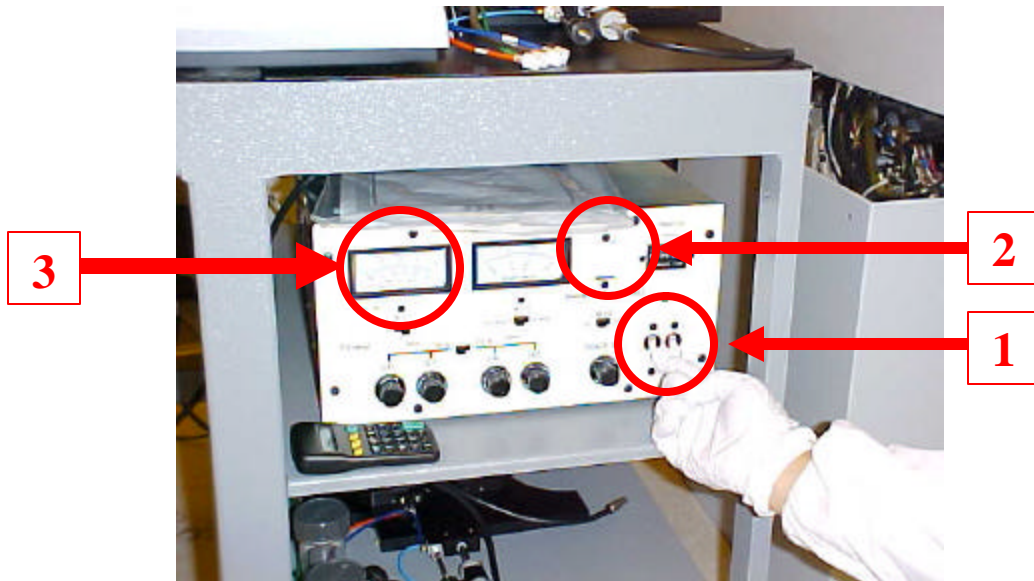

Figure 4. UV Power Supply
3. Turn on the power switch ((1) in Fig. 4) in the UV power supply. Press the LAMP “START” switch **down** ((2) in Fig. 4). You have to **press and hold it for about 3 seconds**. You will notice that “LAMP VOLTAGE” meter ((3) in Fig. 4) goes up around 20 V (If the current mode (I) is selected, change the switch just underneath meter to the voltage (V) mode). The **WARMUP** period should be **AT LEAST 10 minutes**. The lamp voltage will be increased to 87 V during the 10 min. WARMUP period.
22. Wait for another **5 minutes**, and then turn the “Illumination Controller” off ((1) in Fig. 4). During this period, the UV Lamp is cooled. If you turn the “Illumination Controller” off right after your exposure, IT WILL SIGNIFICANTLY REDUCE LAMP LIFETIME.